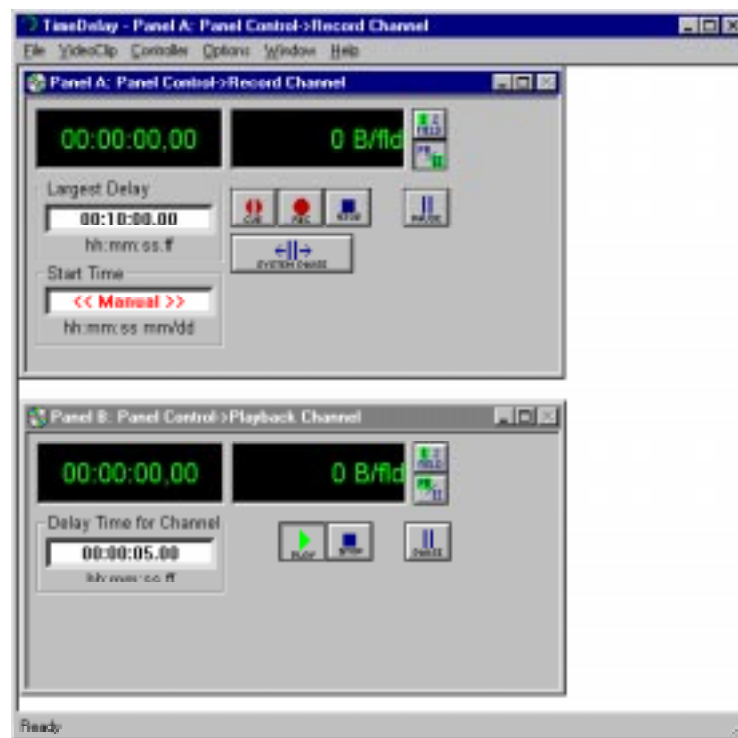

Figure 150. TimeDelay window with record/playback pair
1. Double click on the TimeDelay shortcut icon on the desktop to start the application. Figure 150 illustrates the TimeDelay panels. TimeDelay starts in the same panel configuration as it was last saved.